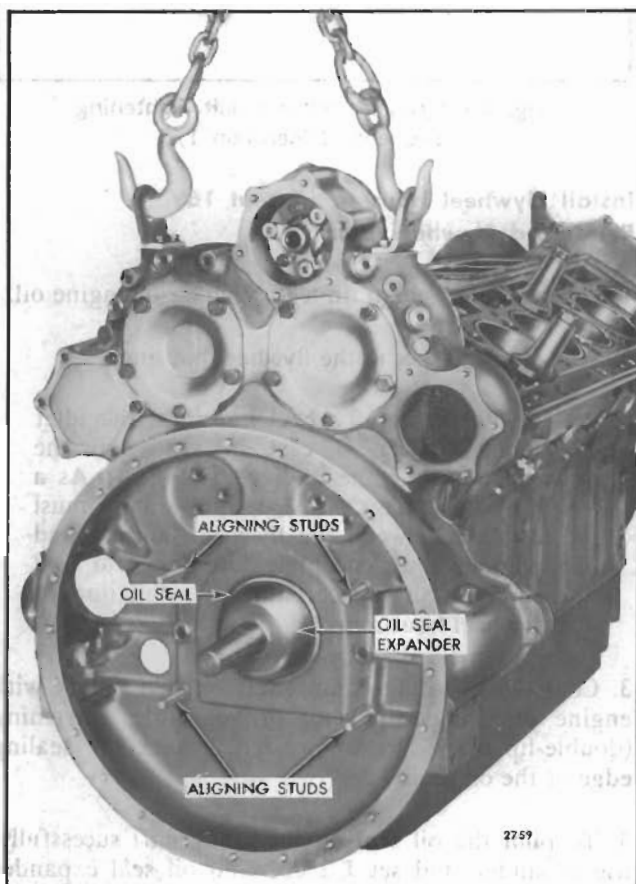

Fig. 1 - Installing Flywheel Housing, Using Oil Seal Expander Aligning Studs
7. Remove the twelve attaching bolts located in the bell of the housing. Remove one attaching bolt located behind the small hole cover on the right-hand side of the flywheel housing. Then remove the remaining bolts around the upper portion of the housing and the two bolts which go through the rear end plate from the front and thread into the housing. Install aligning studs J 1927-01 (Fig. 1) to guide the housing until it clears the crankshaft during removal.